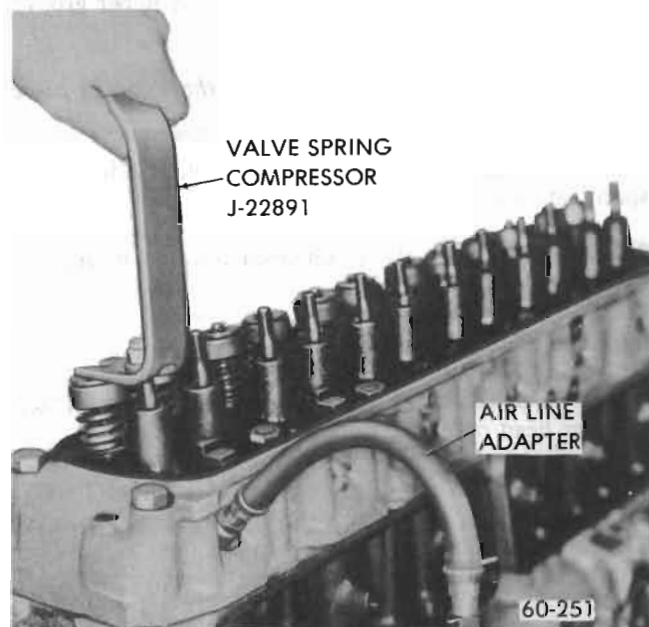

Figure 60-9 - Removing Valve Cap Retainers
4. Using a suitable compressor, such as J-22891, compress valve spring and remove valve spring cap keys. Release tool and remove shield spring and cap. See Figure 60-9.